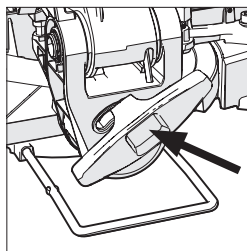

Fig. 22
- Loosen the bevel locking screw (**Fig. 22**).